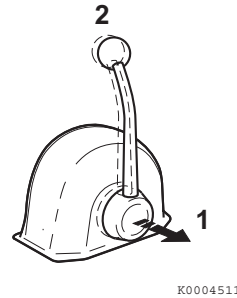

Figure 18
When the handle is pulled out (**Figure 18, (1)**), the engine speed can be controlled without engaging the clutch. The clutch remains in NEUTRAL, no load position. Turn the knob (**Figure 18, (2)**) counterclockwise to move the handle or clockwise to lock the handle.